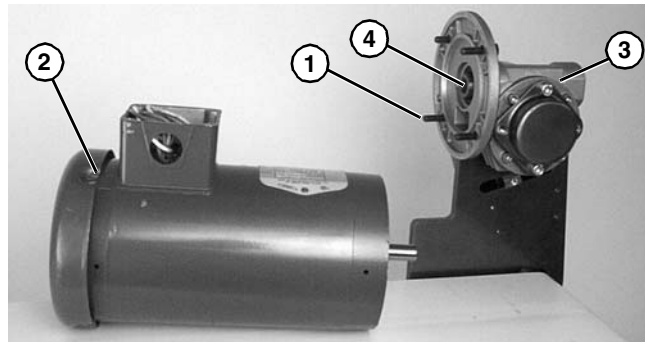

Figure 41
1. Remove four screws (Figure 41, item 1). Detach motor (Figure 41, item 2) from gear reducer (Figure 41, item 3). Retain motor output shaft key (Figure 41, item 4).